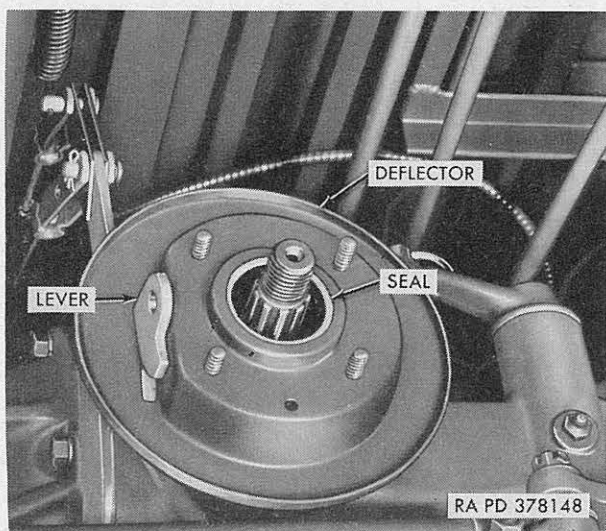

Figure 77. Brake lever, and dirt and liquid deflector.
- (5) Work dirt and liquid deflector (fig. 77) off studs and brake lever. Remove gasket.
- (6) Press oil seal (fig. 77) out of dirt and liquid deflector.
- (2) Press new oil seal (fig. 77) into dirt and liquid deflector, making sure lip of seal is toward large, or front, end of deflector.
- (3) Position dirt and liquid deflector (fig. 77), with oil seal, on studs of front axle